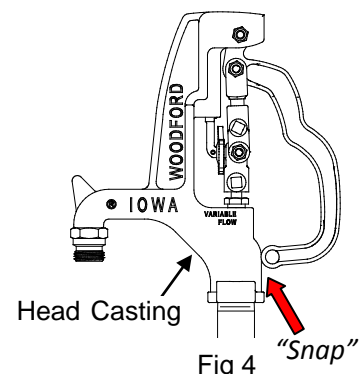

Fig 4
- Tighten the Set Screw and install the lower Link Bolt. *The Handle, at the end of the closing stroke, should "snap" closed against the Head Casting.* Fig 4
7. Examine plunger for damage and replace if necessary. Fig 4